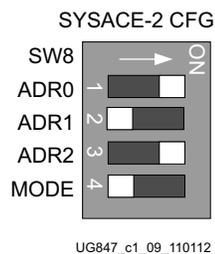

Figure 1-9: Configuration Address DIP Switch (SW8)
4. Select the GTX IBERT demonstration with the System ACE™ SD controller SYSACE-2 CFG switch, SW8. The setting on this 4-bit DIP switch (Figure 1-9) selects the file used to configure the FPGA. A switch is in the ON position if set to the far right and in the OFF position if set to the far left. For the Quad 115 GTX IBERT demonstration, set ADR2 = ON, ADR1 = OFF, and ADR0 = ON. The MODE bit (switch position 4) is not used and can be set either ON or OFF.